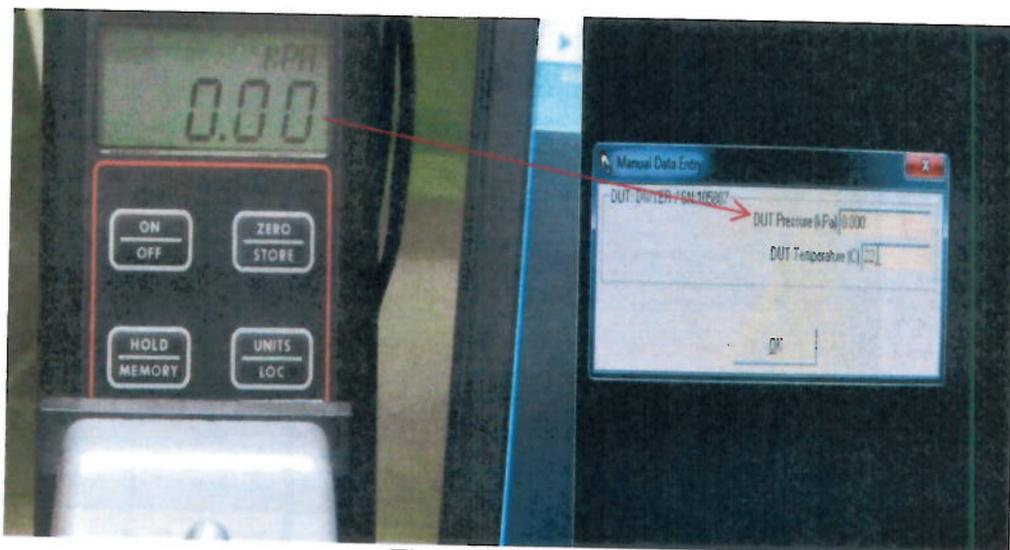
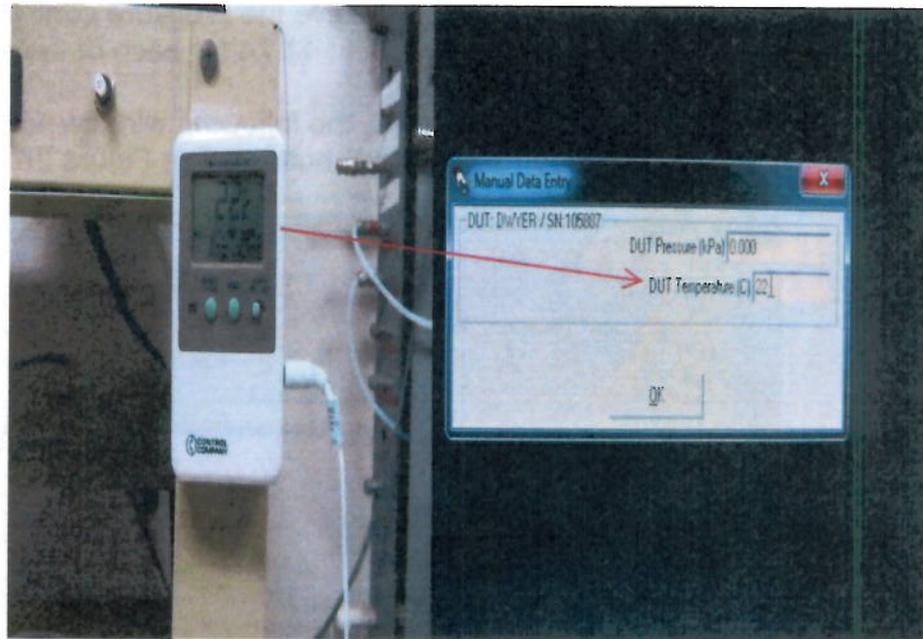

Figure 25
Figure 26
- 11.25 Enter the candidate display reading into the "DUT Pressure (kPa)" text box. See Figure 25. Enter the laboratory temperature from the digital meter located on the workbench into the "DUT Temperature (C)" text box. See Figure 26.